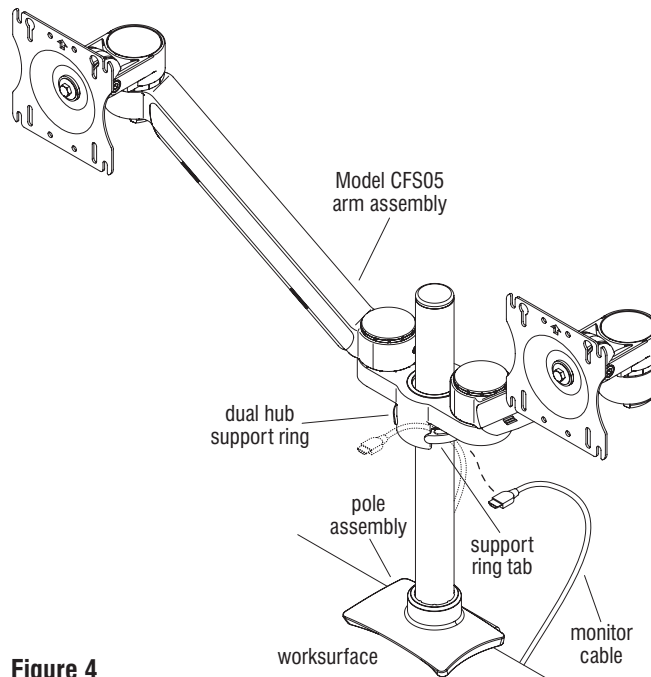

Figure 4
7. Insert monitor cables through support ring tabs (Figure 4).